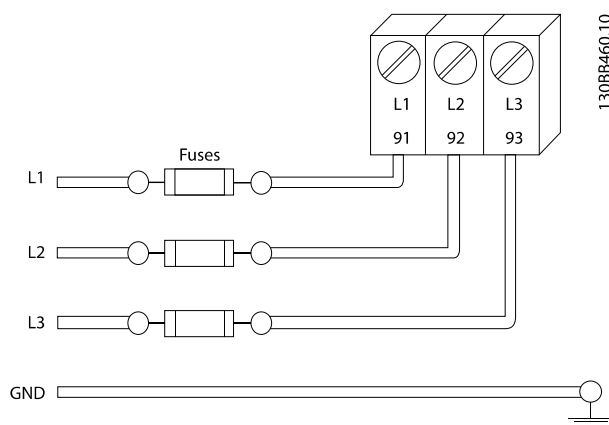

Figure 2.7 Adjustable Frequency Drive Fuses
- All adjustable frequency drives must be provided with short-circuit and overcurrent protection. Input fusing is required to provide this protection, see Figure 2.7. If not factory supplied, fuses must be provided by the installer as part of installation. See maximum fuse ratings in 10.3 *Fuse Tables*.